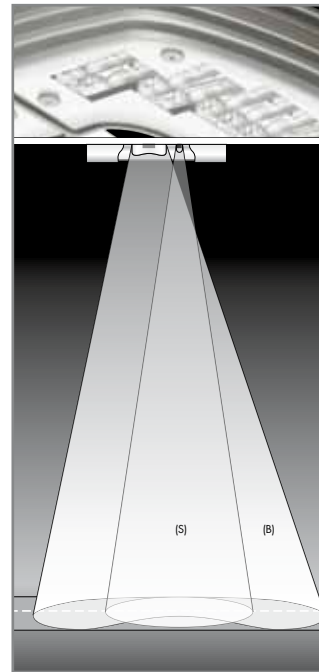

Fig. 1
Multiple rows of LEDs, using a mixture of secondary symmetrical (S) and batwing lenses (B) (Fig. 1) for direct and longitudinal light distribution respectively, are positioned within angled reflectors that boost transverse light distribution. The resulting layering effect also maintains the light distribution in the event of dimming or a premature LED failure and gives excellent glare control. As the LEDs produce directional light, they only light the areas that need to be lit, maximising luminaire efficiency and thus spacings between lanterns.